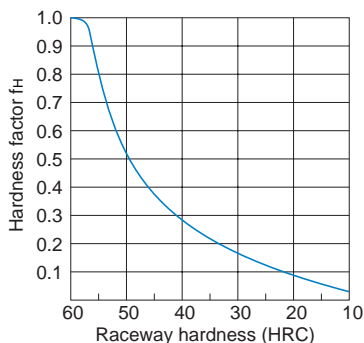

Fig.2 Hardness Factor (fH)
- $f_H$  : Hardness factor (see Fig.2 on A-557)